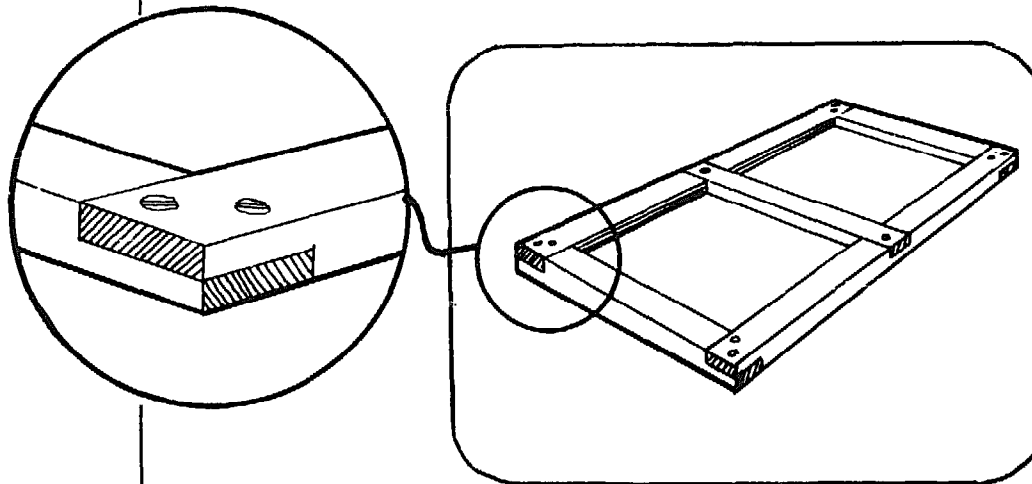

Figure 3
Important: This frame is the box cover. Its outside dimensions must be 1/8" larger than the outside of the box. If the box is a perfect 96"x48", you will cut two 96 1/8" pieces and two 48 1/8" pieces. But *wait!* Measure the box. Then cut and build to fit the largest dimensions of the box. Form a rectangle using glued-and-screwed lap joints as shown in Figure 3. *Make sure this frame is square!*
2.2 Lap join to form a rectangle as shown in Figure 3. Glue, then screw joints together. Screws should be on a diagonal to avoid splitting.